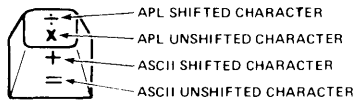
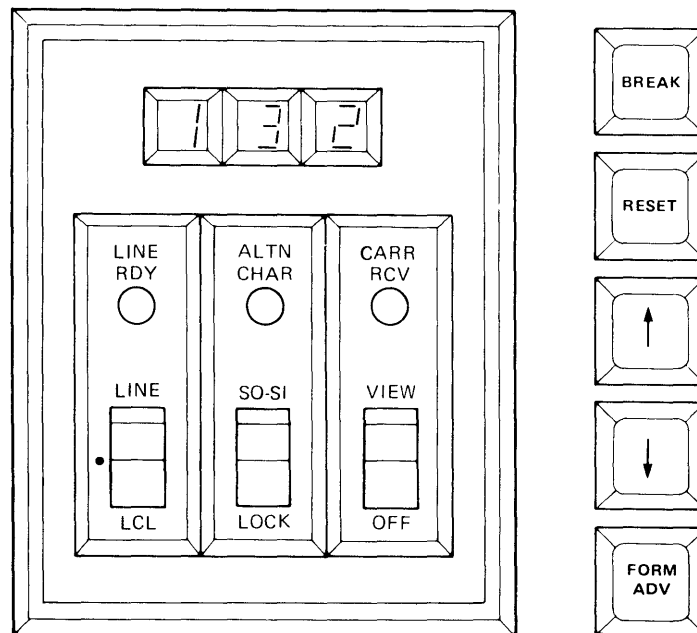

Figure 3-6. APL Keyboard
Figure 3-7. Control Panel, USASCII/APL Option
3.5.4 ALTERNATE CHARACTER SET KEYBOARD — ASCII/APL (Model 820 KSR Only). The optional APL keyboard shown in Figure 3-6 enables the terminal to transmit and receive both the standard ASCII and the APL characters. The SO-SI/LOCK switch and ALTN CHAR indicator shown in Figure 3-7 are added to the control panel with this option installed. The SO-SI/LOCK switch, in conjunction with the O, N, and CTRL keys and the control codes SI and SO, permit selection of either the APL or the ASCII mode. With the SO-SI/LOCK switch in the SO-SI position and the terminal in the LCL mode, APL mode is selected by pressing the N key while the CTRL key is pressed and held [which generates the control character SO (*shift out*)]. The ALTN CHAR (alternate character) indicator lamp will light to signify that the terminal is in the APL mode. The